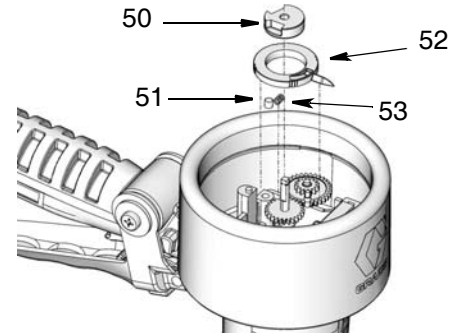

FIG. 16
4. Use a hex wrench to remove the plug setscrew. Remove the plug (50), remove the pin (51), spring (53), and the lower pointer (52) (FIG. 16).